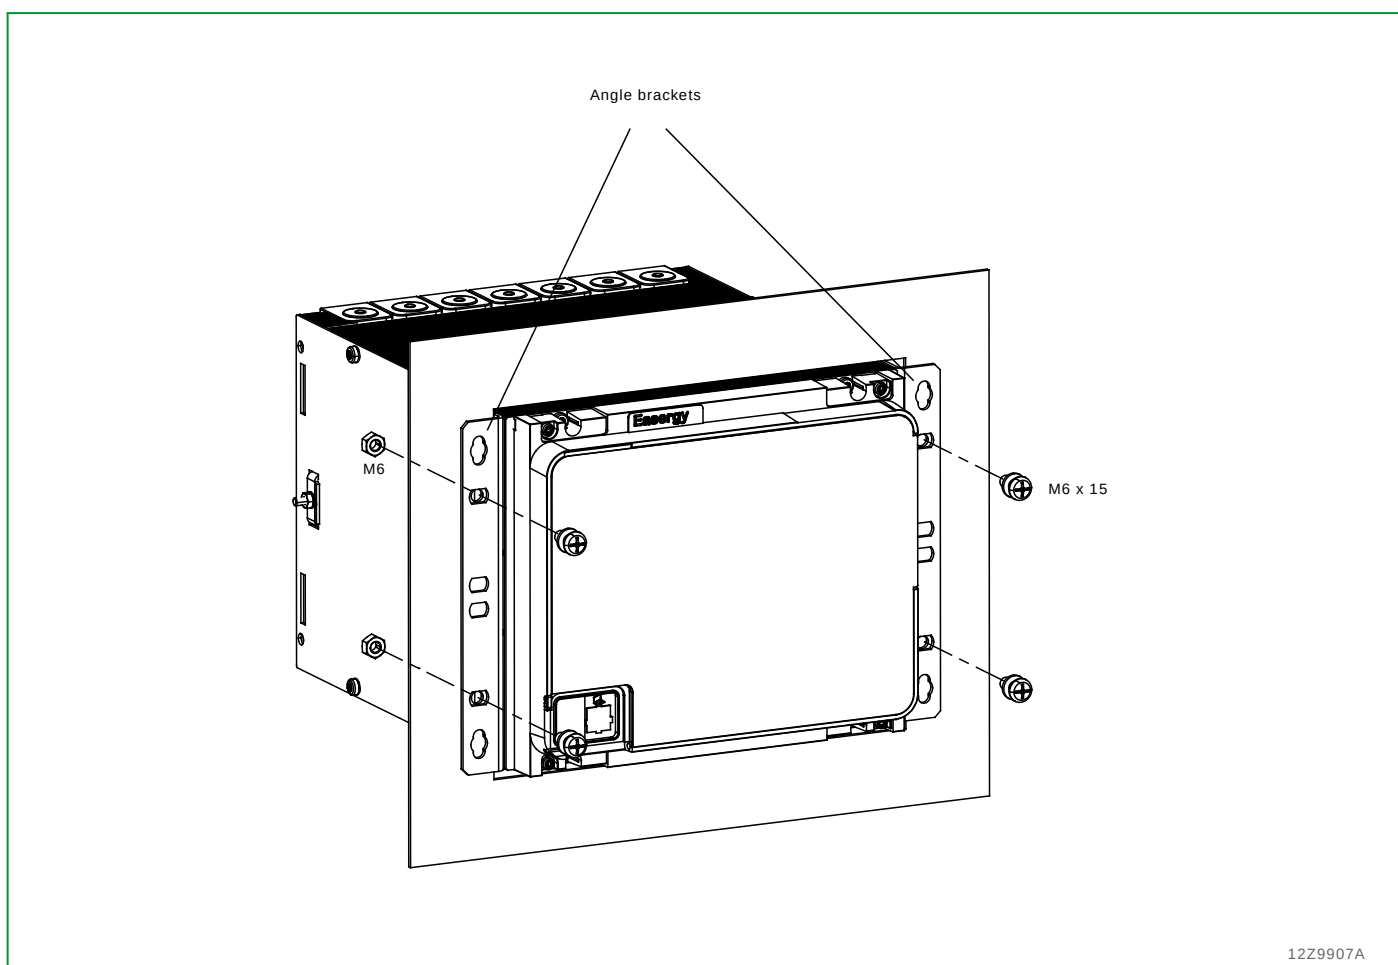

Fig. 5-5: Installation of a case into a control panel, flush-mount method 2 (with angle brackets). Example for a device in a 40 TE case.
- The equipment provides increased mechanical robustness if either the surface-mounted case or for the flush-mounted case flush-mount method 2 (with angle brackets and frame, see Fig. 5-5, (p. 5-10)) is used.
3. Secure the device to the control panel by using the enclosed M6 screws (see Fig. 5-5, (p. 5-10)).